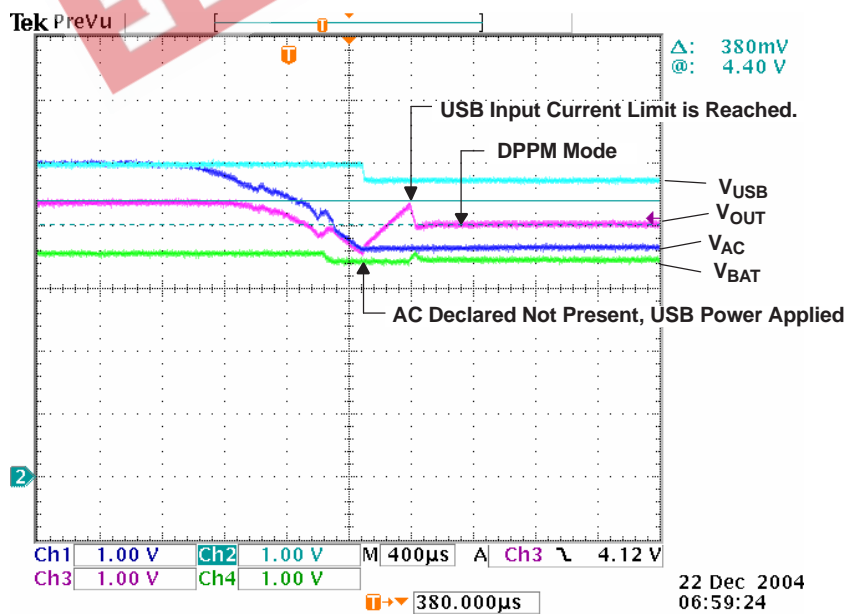

Figure 7. Remove AC – PWR XFER to USB
Figure 7 illustrates when AC is removed, power transfers to USB; PSEL = H (AC primary source); channel 1 (CH1) VAC = 5.4 V; channel 2 (CH2) V(USB) = 5 V; channel 3 (CH3) VOUT; output current, IOUT = 0.25 A; channel 4 (CH4) VBAT = 3.5 V; and I(PGM-CHG) = 1 A. The power transfer from AC to USB only takes place after the primary source (AC) is considered bad (too low, VAC ≤ VBAT + 125 mV) indicated by the  $\overline{ACPG}$  FET turning off (open drain not shown). Thus, the output drops down to the battery voltage before the USB source is connected (6th div). The output starts to recover when the USB FET starts to limit the input current (7th div) and the output drops to the V(DPPM-REG) threshold.